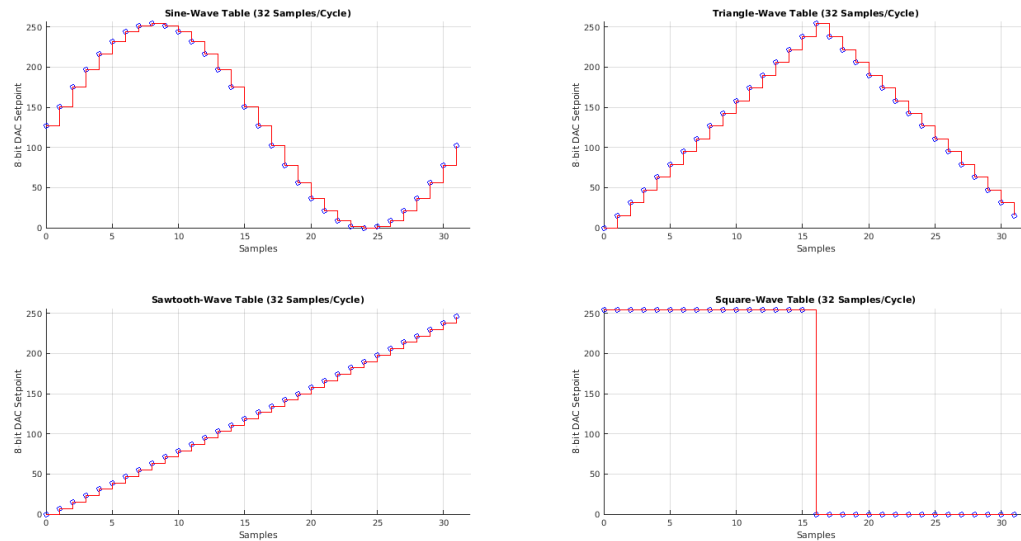

Figure 7.8: Graphical representation of the wave tables used in the lab assignment.
Through quantization, analog signals can be represented in software as a list of numerical values. Part of the in-lab assignment uses a *wave table* containing a digital representation of a single wave cycle. These tables are arrays, indexed by a counter that increments as the data is moved into the DAC. The rate at which the waveform samples are fed into the DAC determines the resulting output frequency. Figure 7.8 contains the c-code for tables of the basic wave types.
Figure 7.8 shows graphs of each table in figure 7.8. These tables use 8-bit data (256 quantization levels) with 32 samples per wave cycle. Increasing the number of samples per cycle would improve the smoothness of the output. However, increasing the number of samples also requires a much higher rate of moving data into the DAC to achieve the same output wave frequency.
The goal of this exercise is to generate an analog waveform that can be viewed using either an oscilloscope or the analog input of a Saleae logic analyzer. The DAC peripheral will be fed values from one of the lab wave-tables located in figure 7.8.
4. Copy one of the wave-tables in figure 7.8 into your application.